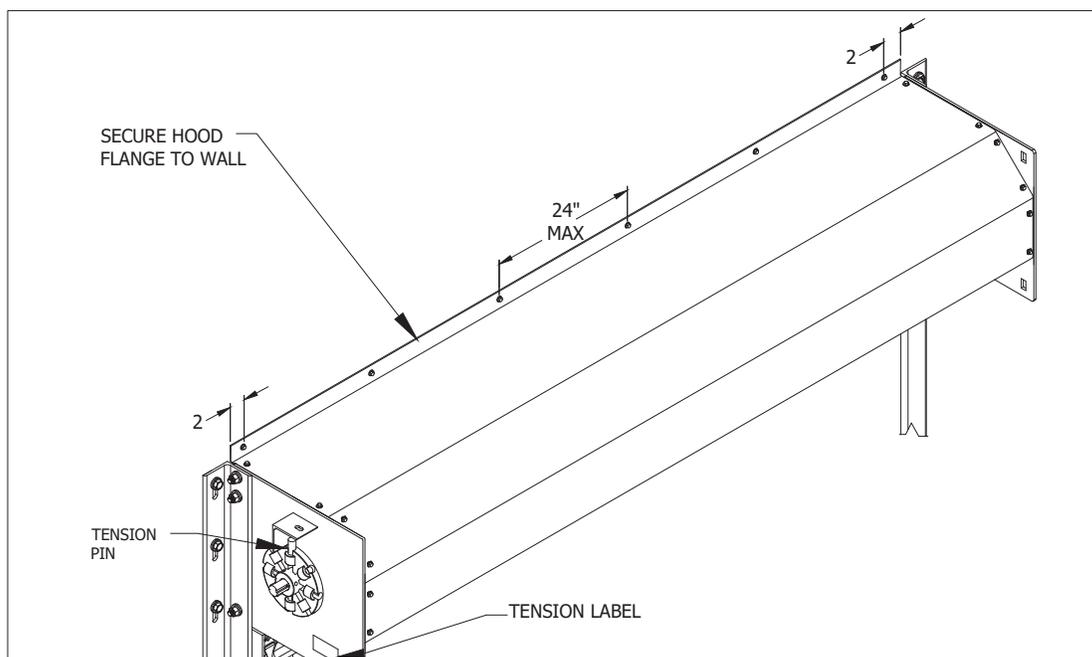

FIGURE 20
- e. Insert tension wheel pin as shown in Figure 20.
- b. Attach hood to headplate hood bands with self-drilling fasteners provided and approved by Janus International Group. Use two fasteners per flat hood surface as shown in Figure 20.